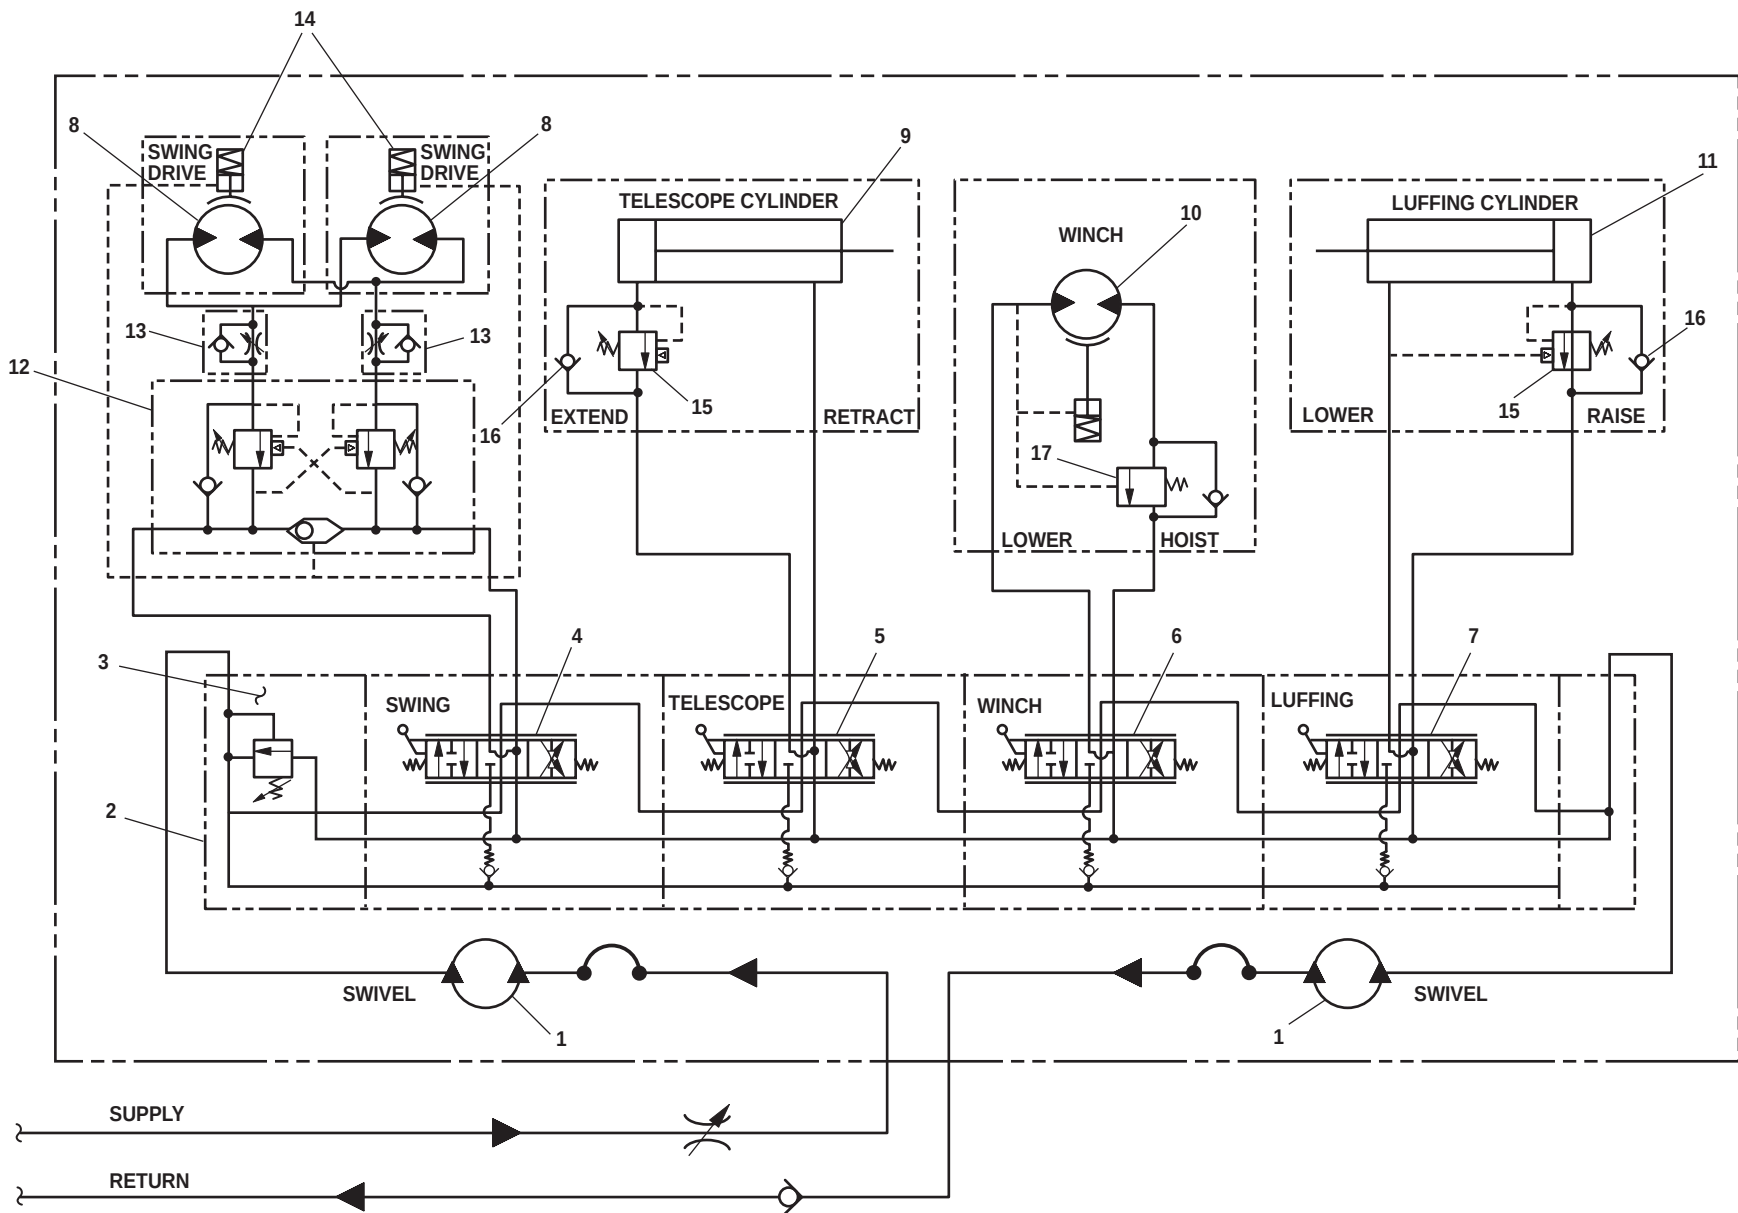

Figure 10. Crane Hydraulic System
Supply and return flow for the crane passes through a swivel (figure 10, item 1) before arriving at the control valve bank (figure 10, item 2). The swivel permits hydraulic fluid to flow to and from the crane's controls as the crane rotates.
The control valve bank (figure 10, item 2) is made up of a relief valve (figure 10, item 3), directional control valves for the swing (figure 10, item 4), telescope (figure 10, item 5), winch (figure 10, item 6), and luffing (figure 10, item 7) functions. The relief valve is set for 2650 PSI (183 bar) and prevents overpressurization of the crane's hydraulic components. The directional control valves are all manually operated via control handles. These directional control valves control the direction and volume of hydraulic fluid flowing to the swing motors (figure 10, item 8), the telescope cylinder (figure 10, item 9), the winch motor (figure 10, item 10), and the luffing cylinder (figure 10, item 11).
The swing motors (figure 10, item 8) are protected by a double counterbalance valve (figure 10, item 12) and by two flow control valves (figure 10, item 13). The double counterbalance valve prevents the swing motors from turning unless hydraulic pressure is applied to rotate them. The double counter balance valve also prevents a load from overriding the swing motors and swinging the boom uncontrollably. The flow control valves, each set for 9 gal/min (34 L/min), prevent the boom from swinging too quickly.
The swing motors (figure 10, item 8) are also provided with fail safe brakes (figure 10, item 14). These brakes are spring-applied, and pressure-released and provide the primary braking method for the swing system.
Both the telescope (figure 10, item 9) and luffing cylinders (figure 10, item 11) are equipped with holding valves (figure 10, item 15). The holding valves prevent the telescope and luffing cylinders from retracting until pressure is supplied to the rod side of the cylinder. When no pressure is applied to the rod side of the cylinder, a check valve (figure 10, item 16) inside the holding valve prevents return hydraulic fluid from exiting the piston side of the cylinder. If this return hydraulic fluid cannot exit, the cylinder cannot retract. When pressure is applied to the rod side of the cylinder, a portion of this pressure is routed through the internal pilot line to open the holding valve. Once the holding valve is OPEN, return flow is permitted from the piston side of the cylinder, and retraction occurs.
The winch motor (figure 10, item 10) is also equipped with a holding valve (figure 10, item 17). This valve operates just like the holding valve described above, except that it prevents return flow from the winch motor when the motor is operating in the LOWER direction. This prevents the load from overrunning the motor and causing uncontrolled lowering of the load. The winch motor is also fitted with a fail safe brake. Like the winch motor brakes, this brake is spring-applied and pressure-released, and provides the primary braking method for the winch.